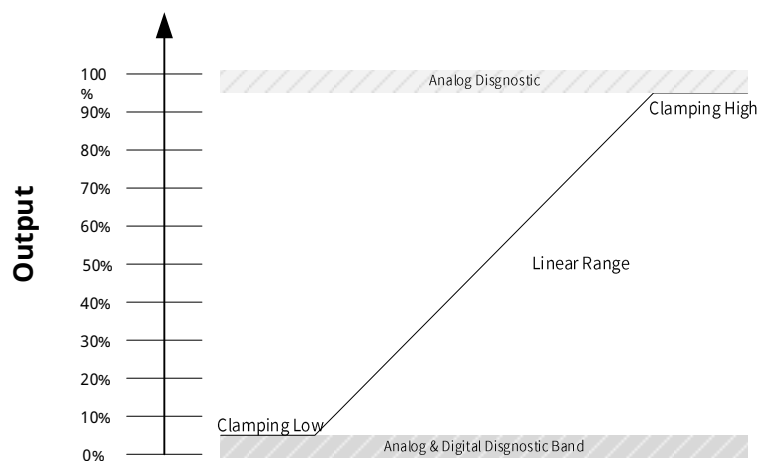

Fig.6 Example of Output Range for Typical Application
(1)Based on the description in the table above, the SC69411 can meet the output range settings for the typical application of Fig.6